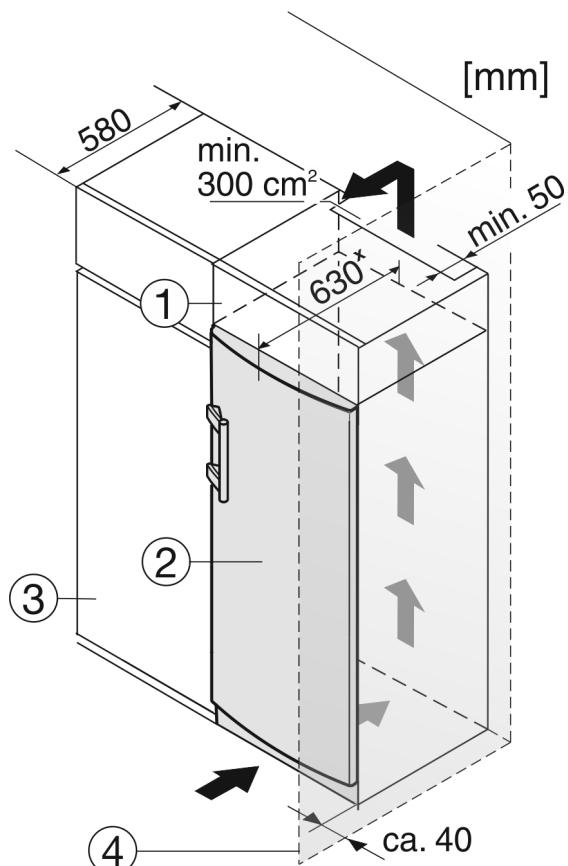

Fig. 11
(1) Stack cabinet
(2) Appliance
(3) Kitchen cabinet
(4) Wall
The appliance can be inserted into a row of kitchen units. To match the appliance *Fig. 11 (2)* to the height of the row of units, a suitable stack cabinet *Fig. 11 (1)* can be fitted above the appliance.
When installing with kitchen units (max. depth 580 mm), the appliance can be positioned directly next to the kitchen cabinet *Fig. 11 (3)*. The appliance will project by 34 mm* at the sides and 50 mm* in the centre of the appliance in relation to the kitchen cabinet front.
If the appliance is installed with the hinges next to a wall *Fig. 11 (4)*, the distance between appliance and wall has to be at least 40 mm. This corresponds to the projection of the handle when the door is open.